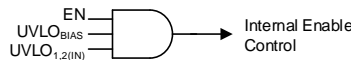

Figure 41. Simplified Turnon Control
Controlling when a single power supply turns on can be difficult in a power distribution network (PDN) because of the high power levels inherent in a PDN, and the variations between all of the supplies. As shown in Figure 41 and Table 2, the LDO turnon and turnoff time is set by the enable circuit (EN) and undervoltage lockout circuits ($UVLO_{1,2(IN)}$ and $UVLO_{BIAS}$).